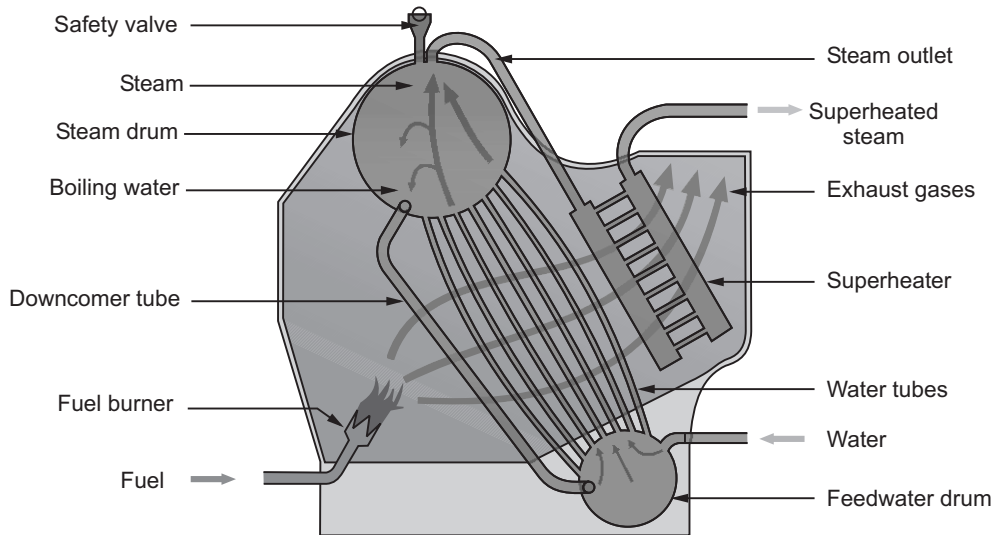

**Fig. 2.1 : Fire tube package boiler**
- The heat of these gases is transferred through the walls of the tubes by thermal conduction hence heating the water and ultimately creating the steam. Refer Fig. 2.1.